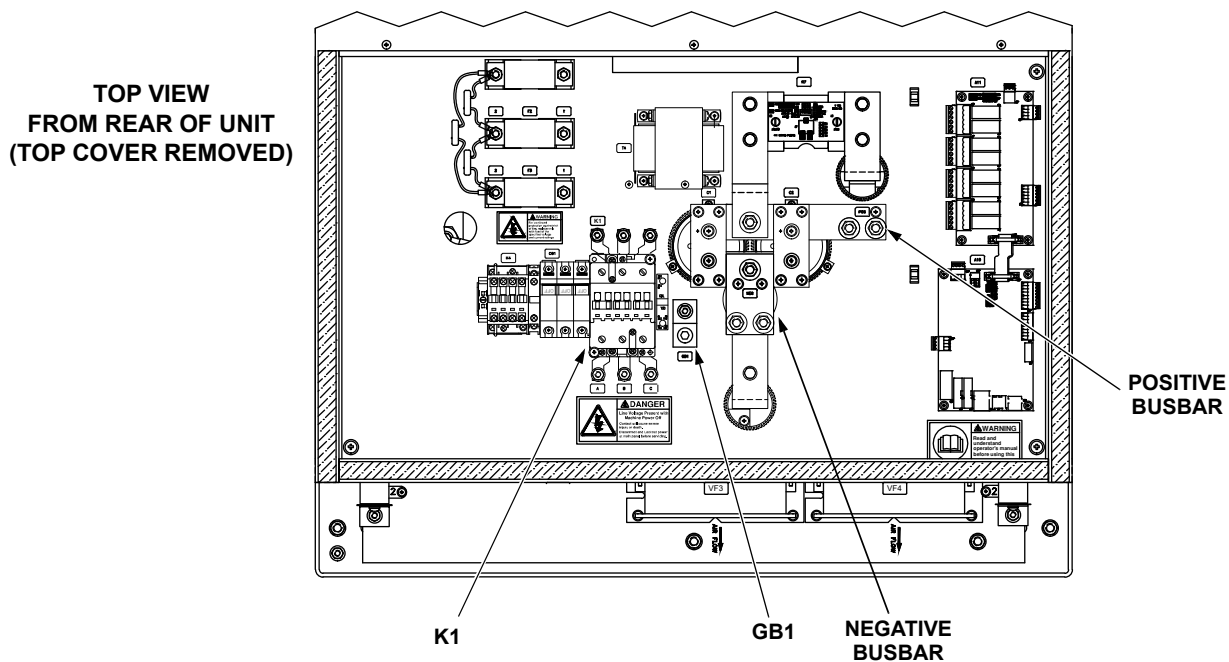

Figure 4. Input and Output Connection Points
- Access to connection points for the power cables can be gained through the top cover. Refer to Figure 4.
5. Locate the 28 VDC positive busbar and the 28 VDC negative busbar. Refer to Figure 4.
6. Locate the input power contactor (K1). Refer to Figure 4.
7. Locate ground lug (GB1). Refer to Figure 4.